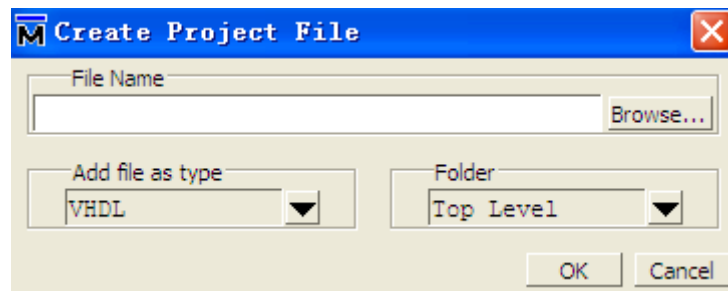

Figure 2.6 Create Project File
1. Click **"Create New File"**. The window in Figure 2.6 will appear.